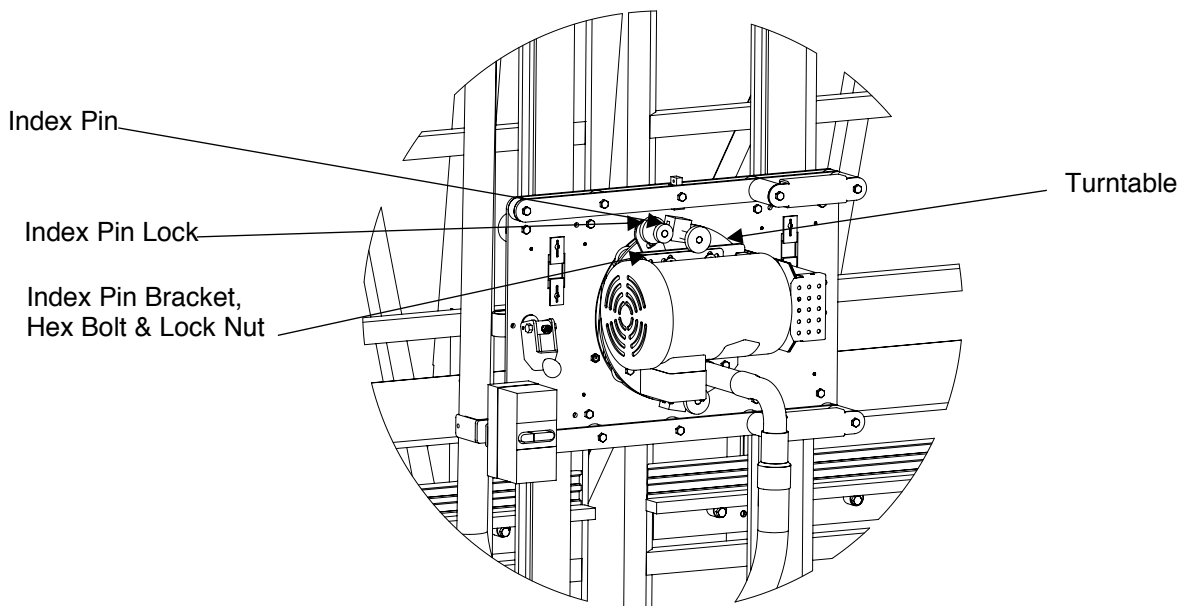

Figure 52: Adjusting Blade Perpendicularity (7400 shown)
- a. Loosen (but do not remove) the hex-nut and bolt nearest the Indexing Pin (Fig. 52).